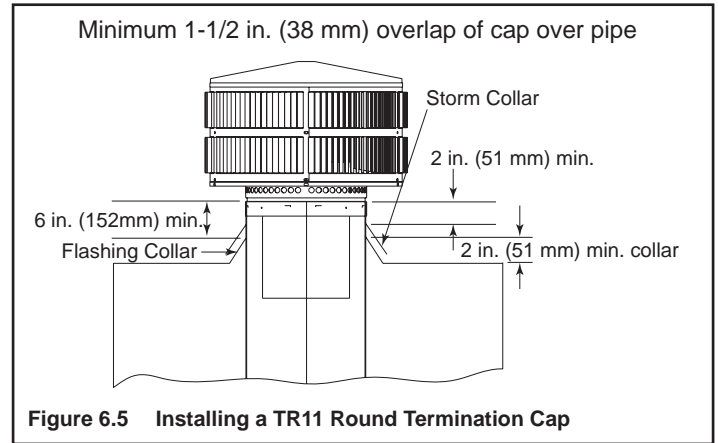

Figure 6.5 Installing a TR11 Round Termination Cap
- Install the chimney sections up through the chase enclosure. When using a TR444 Round Termination Cap, the uppermost top section of pipe must extend 6 in. (152 mm) above the top of the flashing collar to allow installation of the storm collar and termination cap. See Figure 6.5.